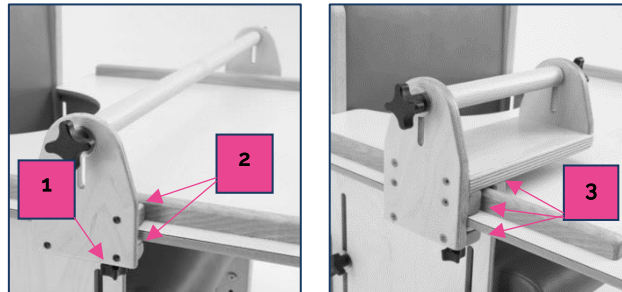

Fig. 3.1.3.1-1
1. Loosen the handwheel on the side clamp/s of the handrail (see Fig. 3.1.3.1-1 Ref 1).
2. Slide the clamps onto the side of the tray from the front, ref to see Fig. 3.1.3.1-1 Ref 2 for full handrail, and Fig. 3.1.3.1-1 Ref 3 for half handrail
1. Loosen the handwheel on the side of the handrail under the tray (see Fig. 3.1.3.1-1 Ref 1)